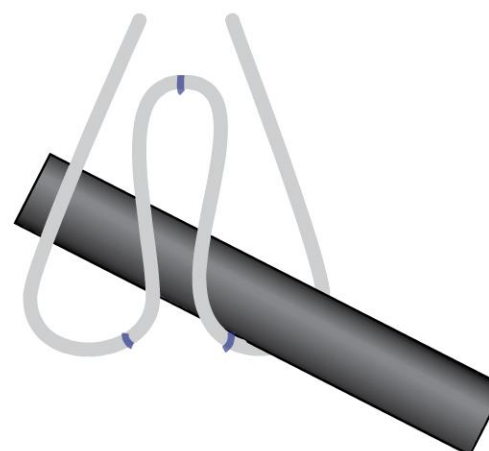

figure 2
**Hold** the mandrel so it's centered on one of marks made in Step 3, and bend the wire against it to 90°. Continue to push the wire up until it touches the bend made in Step 2. Repeat this on the second mark (Figure 2).